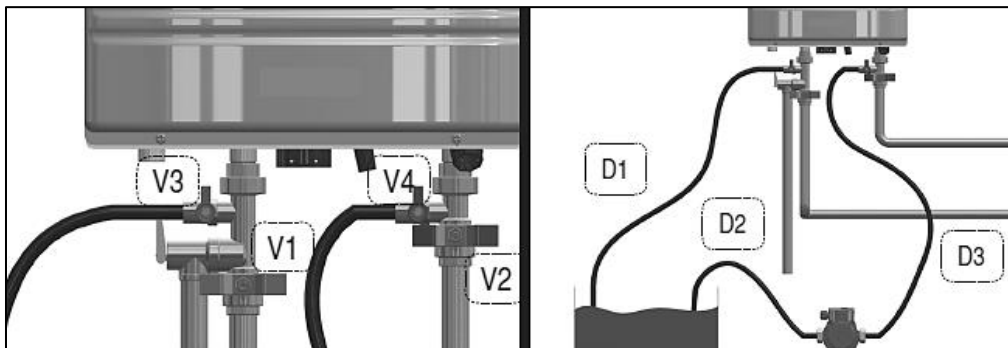

Figure 57 – Flushing the Water Heater
5. Remove the cold water inlet filter. Then clean it with a toothbrush and clean running water. See Figure 57.